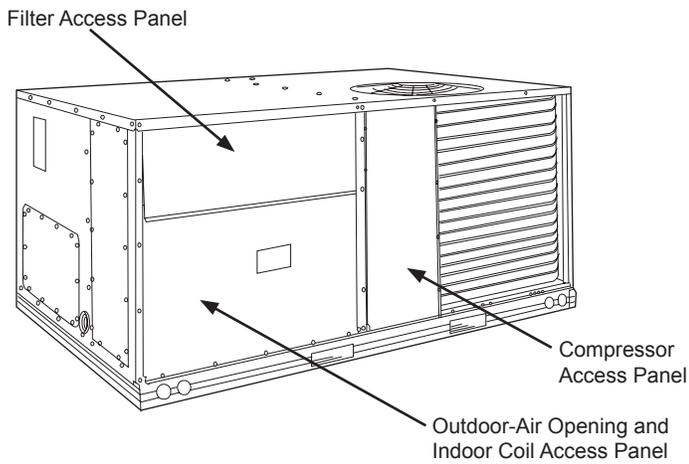

Fig. 2 - Typical Outdoor Air Section Access Panel Locations
- Remove the existing unit filter access panel. Raise the panel and swing the bottom outward. The panel is now disengaged from the track and can be removed and discarded. (See Fig. 2.)
- Remove the indoor coil access panel and discard. (See Fig. 2.)